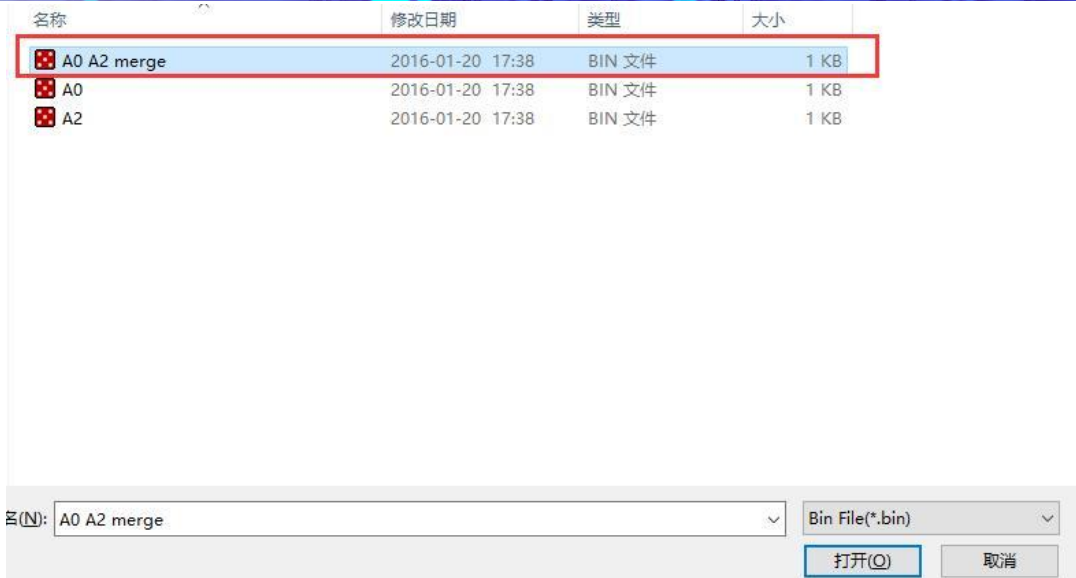

Figure 17
3.2.2 Click “Export BinFile” to import the A0 and A2 bin (Figure 17)